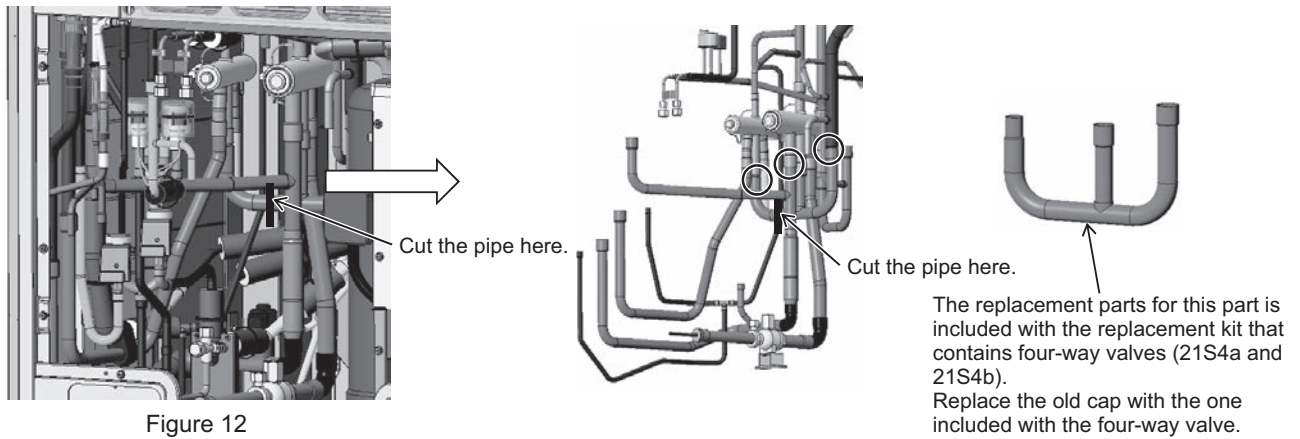

Figure 12
- (12A) Cut the pipe below four-way valve (21S4a) and in the middle with a pipe cutter as shown in the figure. After cutting the pipe where indicated in the figure, remove the braze at the three areas shown in Figure 12.